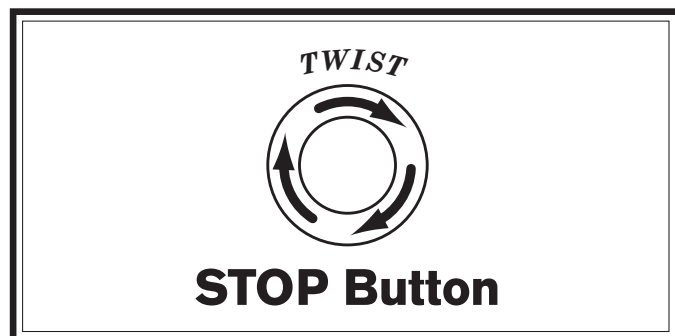

Figure 22. Resetting switch.
8. Twist STOP button clockwise until it springs out (see **Figure 22**). This resets switch so machine can start.